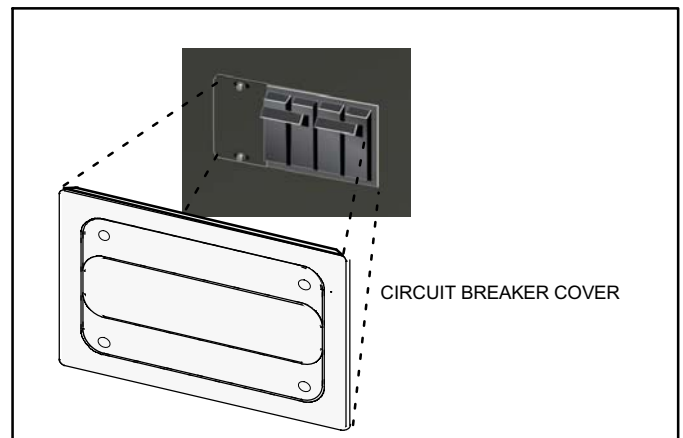

Figure 9. Circuit Breaker Cover Installation
4. Position the breaker cover over the air handler circuit breaker opening (figure 9).